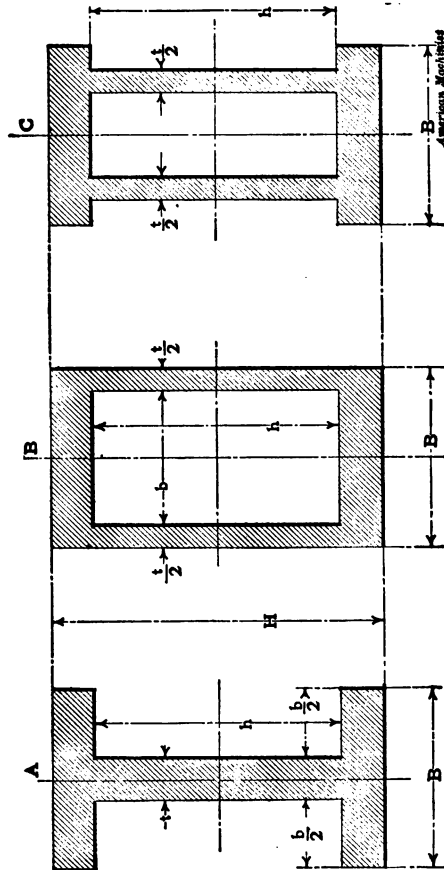

FIG. 19. I AND HOLLOW BOX BEAMS.
being equal to the thickness of the central web, as in Fig. 19. Knowing I and H , the question is to find A .
(II) Divide the central web in two parts and make the section as shown in Fig. 19, shapes *B* or *C*.